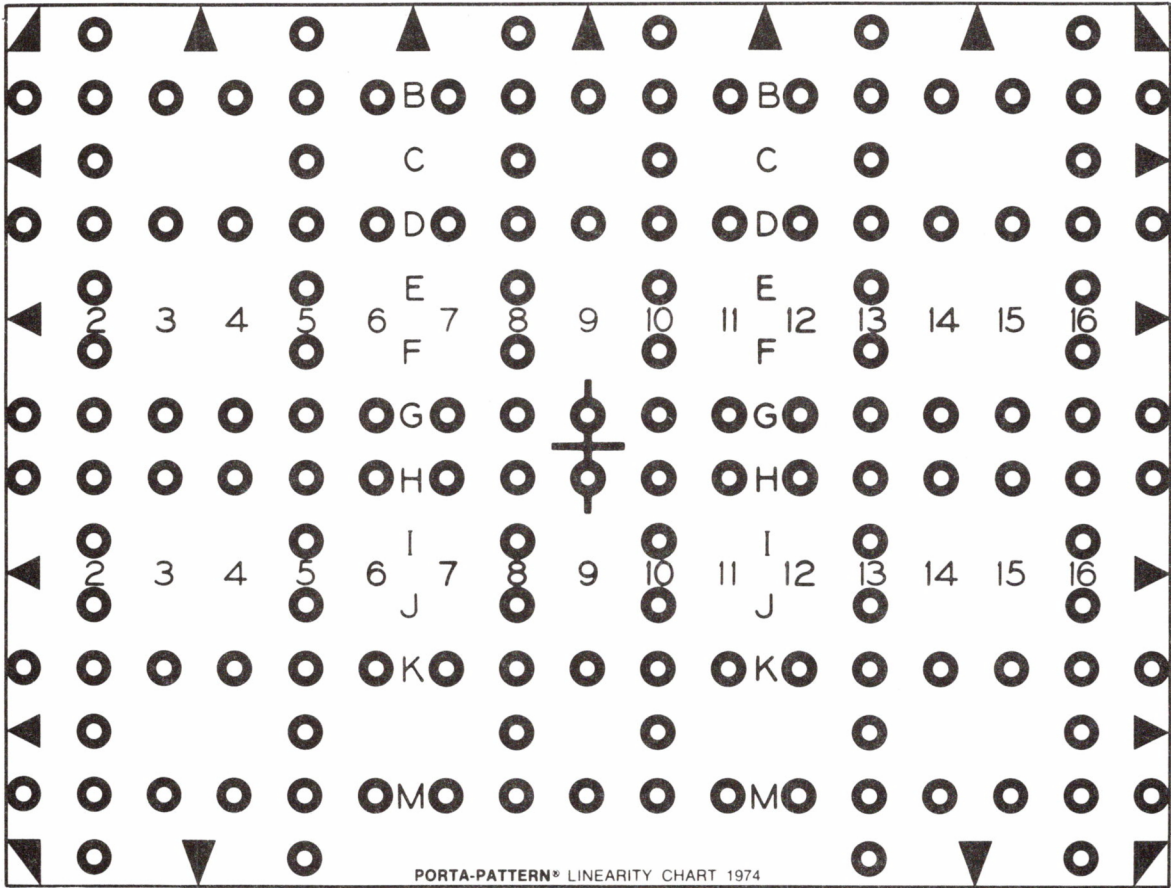

Figure 5-37. Crosshatch Pattern
- STEP 1 Zoom, tilt, pan, and focus camera so that chart arrows just touch sides of raster. Adjust potentiometers R115 (H.T LIN), R165 (TOTAL HEIGHT), R154 (TOTAL V LIN) R174 (G SKEW), and also vertical horizontal position of crosshatch pattern on generator to align each circle with each crosspoint of the crosshatch. If necessary, zoom out or in to achieve this. See Figure 5-37.